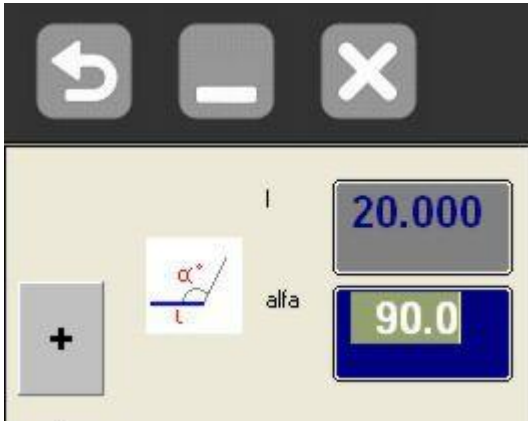

Figure 32 Portion of the part described above, viewed on the “ALPHA angle field” display
- If the “pincushion” option of the keyboard has not been enabled, by touching the ALPHA angle Field (as illustrated in Figure 32) the Soft Keyboard will reappear and allow you to enter the angle: